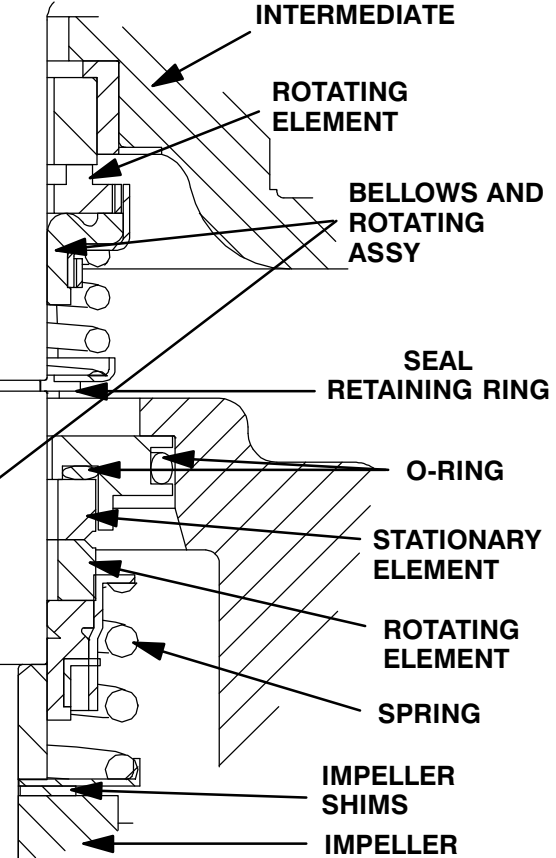

Figure 3. Upper and Lower Seal Assemblies
Install the shaft seals as illustrated in Figure 3.
Slide the seal spring over the shaft and bellows retainer, and install the spring retainer. Compress the spring and install the seal retaining ring (46). See Figure 3 for proper order of seal assembly.
Unpack the stationary portion of the seal and check that the O-rings are properly installed (see Figure 3). Apply a **light** coating of oil to the O.D. of the outer stationary seat O-ring. Keep the sealing face dry.